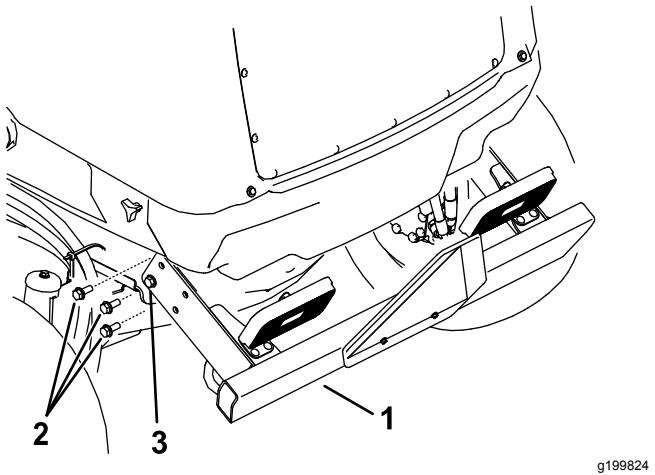

Figure 100
2. Remove the three 3 flange screws from each side of the rear bumper as shown in Figure 100.
6. Raise the rear bumper into position and install the flange screws. Tighten all the flange screws securing the rear bumper to the frame (Figure 100).